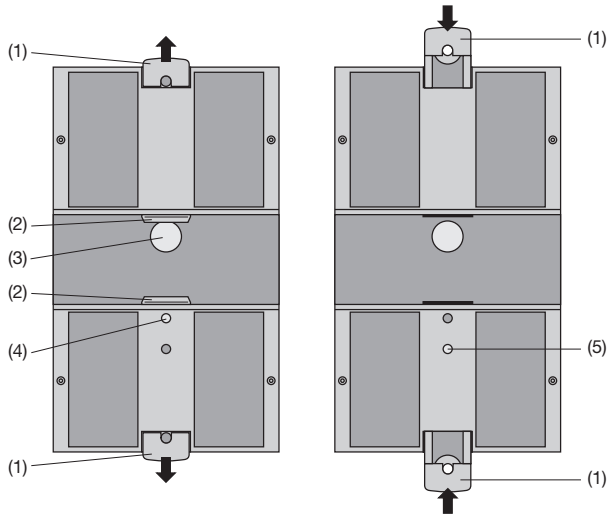

Fig. 5. Rear of device.
While pressing the latch (4) in the base of the device (Fig. 5, left) pull out the securing brackets (1). To return the brackets to their original positions, press the lower latch (5) then apply pressure to the securing brackets (1) (see Fig. 5, right).